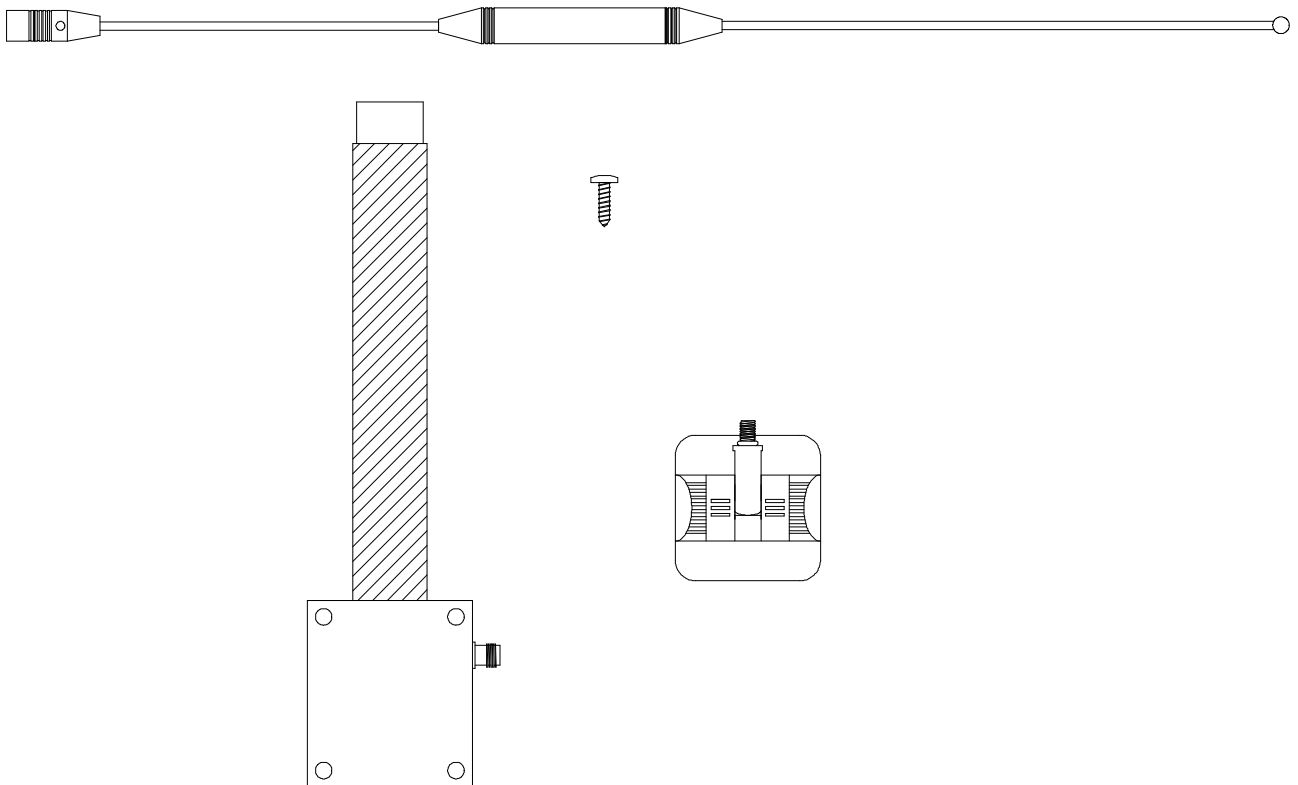

Figure 1 – General Assembly
1. **Part List:** The package includes an antenna, coupler, cable, mounting hardware and connector for the two-way radio. Use only the components supplied with the antenna (Refer to Figure 1).